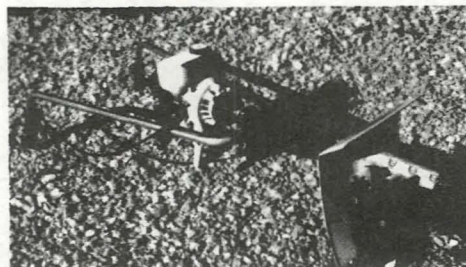

Fig. 15
1. Fill or add fuel to the tank only when the cultivator is in a horizontal position as shown in Fig. 15.